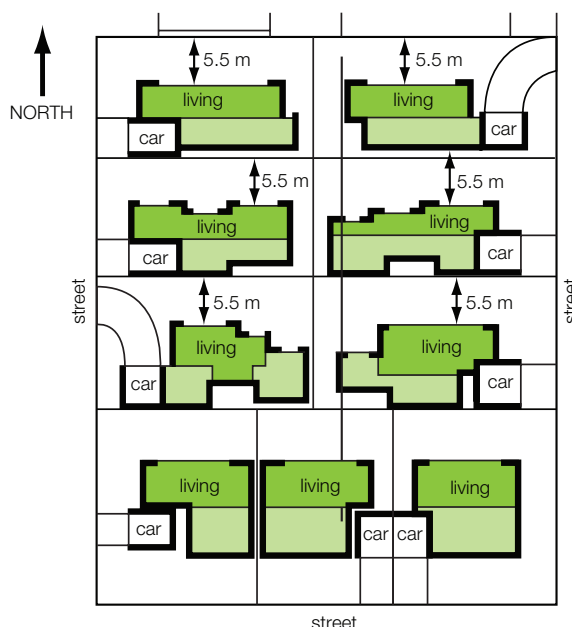

Figure 3: Wise house placement close to east, west and south boundaries maximises solar access
- > Consider sharing walls with neighbours, particularly on the east or west boundaries (see Figure 3).